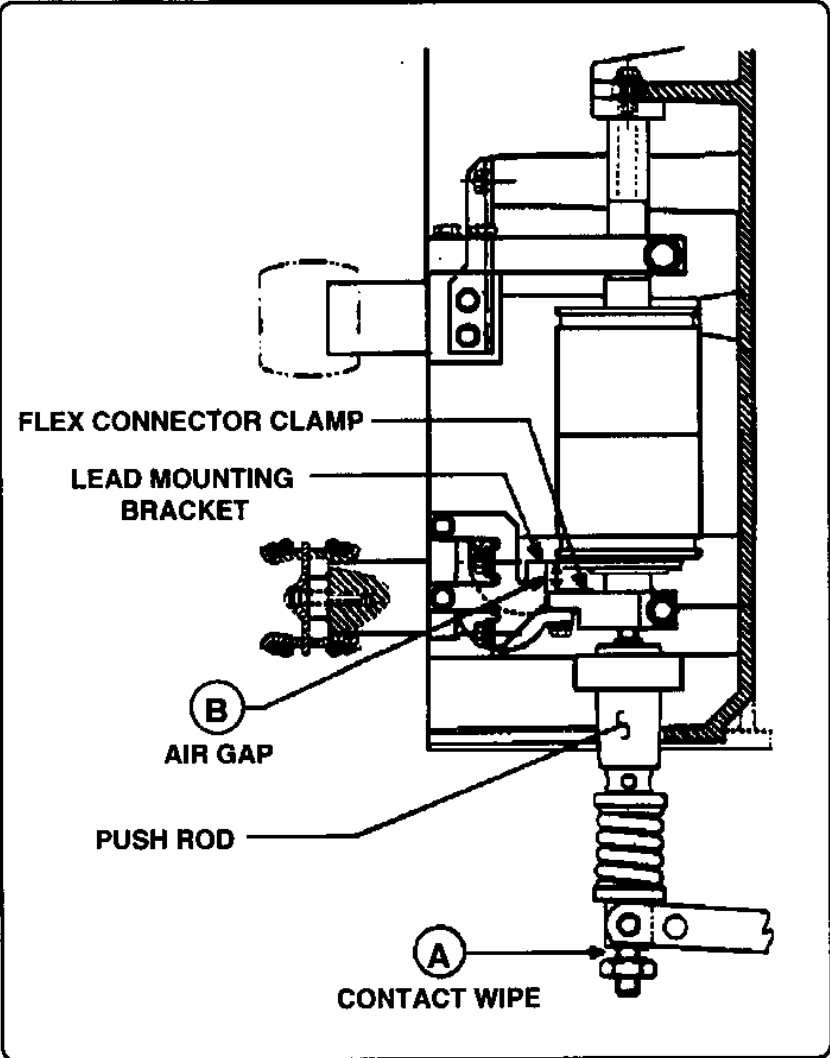

Fig. 5 - Contact Pressure
3. Contact Wipe (contact pressure) Check (See Fig. 5). The contact air gap and contact wipe is set at the factory. These parts should not be repositioned in the field unless a pushrod change is required to correct contact sequence as described elsewhere. Contact wipe is set at the factory at .090-.105. Contact erosion and wear in mechanical parts will cause a reduction in contact wipe over the life of the breaker and a check should be made to insure that the wipe is not less than .039. The measurement is made as follows for the three poles:
4. Contact Gap Check (See Fig. 5). The contact gap is set at the factory at the nominal dimension of .35. This value will normally increase as the contacts erode. A check of the contact gap checks that the breaker does open fully and that the gap is sufficient to withstand the applied voltage. The measurement is made as follows for the three poles.
5. Contact Sequence Check (See Fig. 5). All three poles should touch within 2 millisecond at normal closing speeds. An oscilloscope, oscillograph or other timing method may be used to establish the 2 millisecond timing.